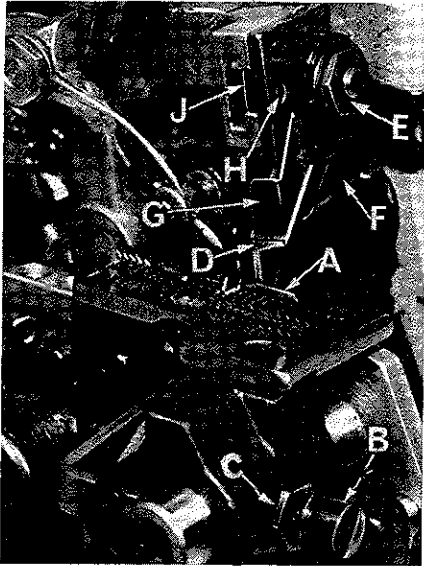

Fig. 13
Replace lower knife holder assembly. Lower knife (A, Fig. 13) should be set with cutting edge flush with throat plate surface. Adjustments are made with hexagonal head screw which holds lower knife. Lower knife is spring pressed against upper knife, so no lateral adjustment is necessary when width of trim is changed.
Replace upper knife assembly. Clamp upper knife (D, Fig. 13) in position, setting nut (E) to hold clamp (F) in its most clockwise position against upper knife. At bottom of its stroke, front cutting edge of upper knife should extend not less than 1/64 inch (.40 mm) below cutting edge of lower knife. The chain guard (G) should be set down against the upper knife and slightly